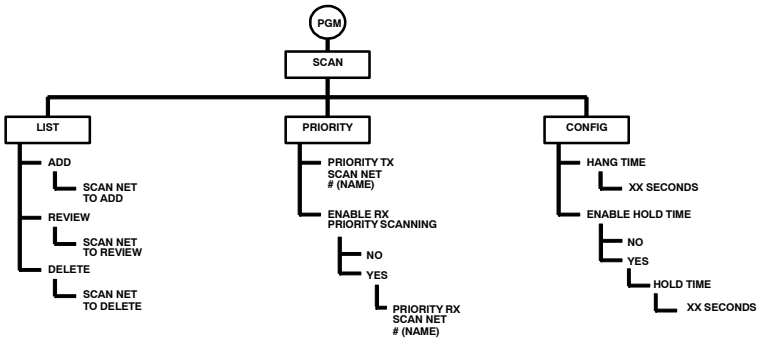

Figure 27. SCAN Mode Programming Menu Tree
- c. Use the left/right arrow keys to select **LIST**, **PRIORITY**, or **CONFIG**. See Figure 27.
See Figure 27. Select **LIST** to **ADD**, **REVIEW**, or **DELETE** nets from the scan list.